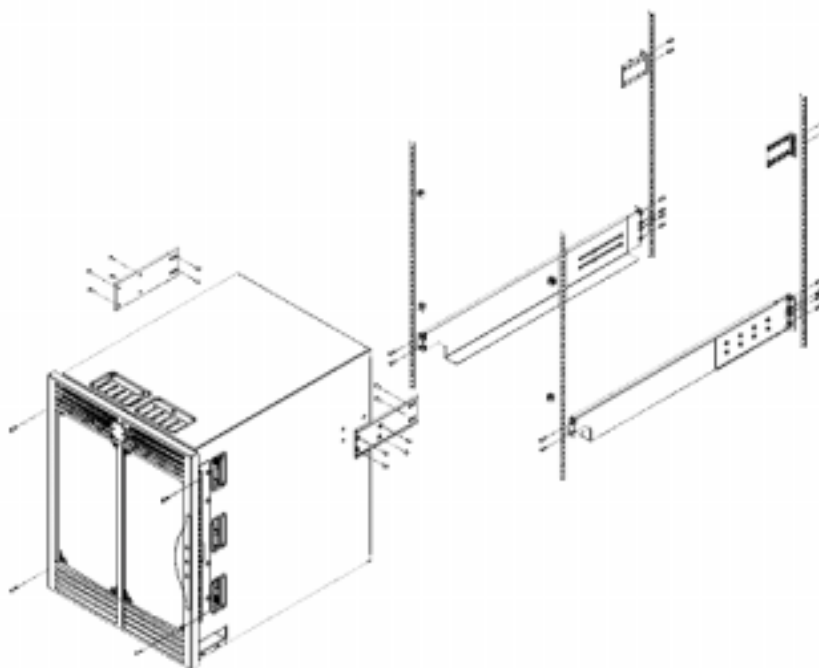

Figure 4-1 SilkWorm 12000 Racking Schematic
- Plan the positioning of the 4 x 10-32 Cage Nuts on the rack rails to ensure that the screw holes being used will line up with the holes on the front of the chassis. To align these Cage Nuts with the front of the chassis place them in one of the following number of holes from the top of the “shelf” like rail. (2,4, 14,16, 26, 28, 34). For example one option is to place the Cage Nuts in the second and the fourth hole on the EIA rail from the top of the “shelf”. This positioning should provide the necessary pattern in order to match the holes on the front of the chassis. If the retainer nuts are found to be incorrectly positioned after the switch is already mounted in the rack, the switch must be removed from the rack in order to reposition the retainer nuts (see Figure 4-1).
- Attach the notched portion of the shelf brackets to the front of the rack as shown in Figure 4-1. This allows the power cables to be routed to either side of the switch.